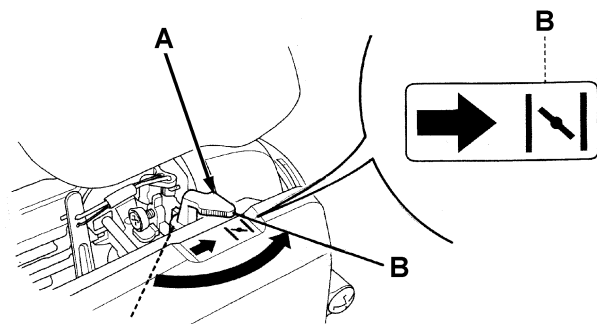

Figure 3
4. Turn the engine choke lever (A, Fig. 3) to closed position (B) by introducing the hand into the compartment (29) without opening the hood (7).
- 5 seconds after the engine has been running, disengage the engine choke lever (A, Fig. 3) by introducing the hand into the compartment (29), without opening the hood (7).
- Release the pedal brake (26) (optional).
- Lower the side broom (10), then disengage the fastener (2) and lower the knob (12) (without turning it).